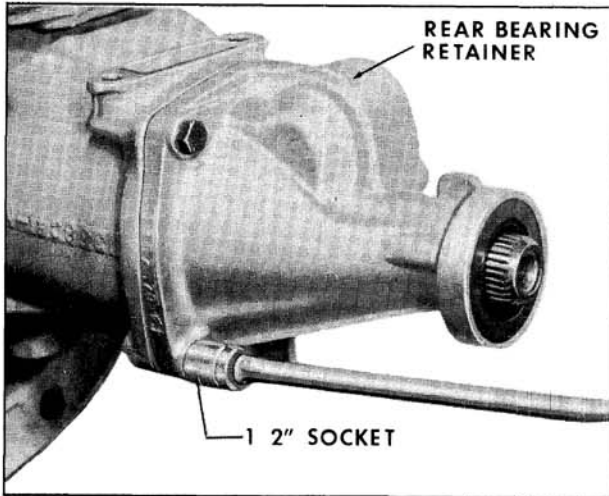

Fig. 6-525 Installing Rear Bearing Retainer
2. Install rear bearing retainer to case and install four retaining bolts, using a 9/16" socket. Torque bolts to 35 ft. lbs. (Fig. 6-525)